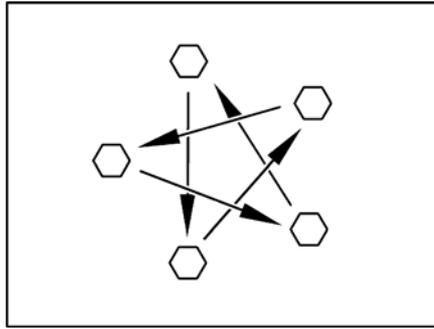

Fig. 185 Tighten the wheel nuts or wheel bolts cross-wise
- Check regularly that the wheel nuts or wheel bolts are firmly seated. Re-tighten the wheel bolts of a changed wheel cross-wise after 50 km (30 miles) (Fig. 185).
- ▷ Tighten the wheel nuts or wheel bolts cross-wise (Fig. 185).